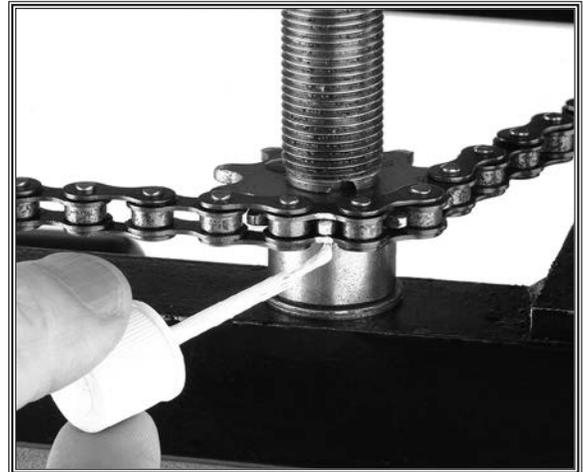

Figure 42. Marking sprocket and lift screw timing.
4. At the lift screw that needs to be adjusted, mark the end of a sprocket tooth and the chain hole where that tooth is meshed, as shown in **Figure 42**.